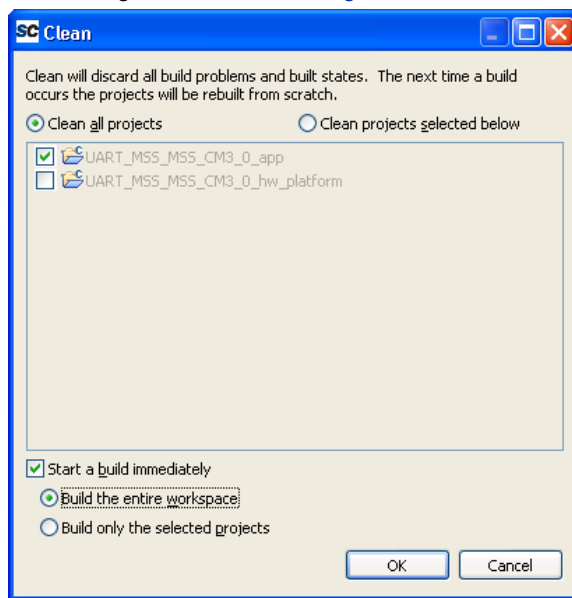

Figure 33 · Building a Clean Project
12. To build your project, select the project name in the **Project Explorer** tab and click **Project > Clean Project**. Enter the settings as shown in the Figure 33 and click **OK**.